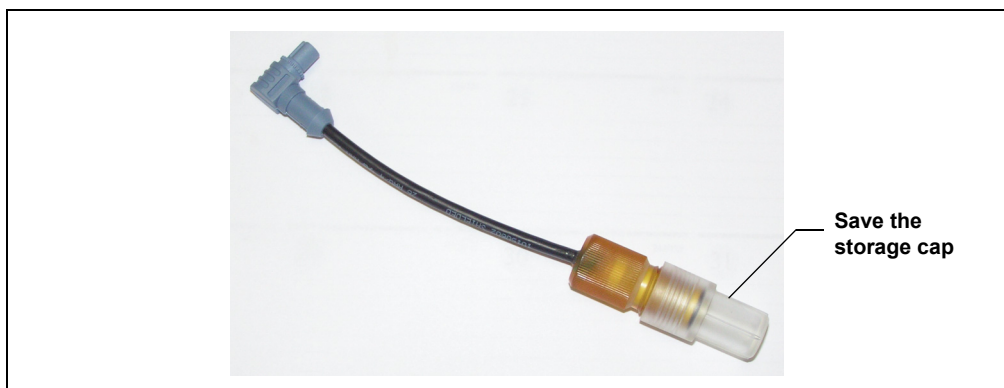

Figure 9-37. Reference Electrode in Storage Cap
5. Unscrew the storage cap from the new reference electrode (see Figure 9-37). Save the cap.